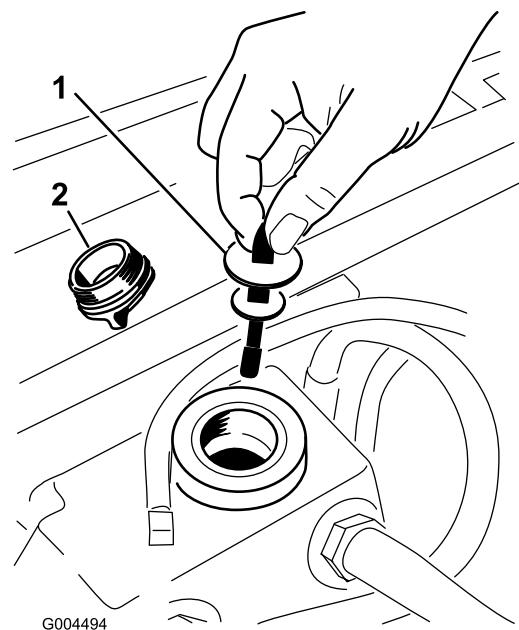

Figure 57
5. Remove the hydraulic fill cap from the filler neck (Figure 57).
6. Remove the dipstick and wipe it with a clean rag (Figure 57).
7. Place the dipstick into the filler neck; then remove it and check the level of fluid (Figure 57).